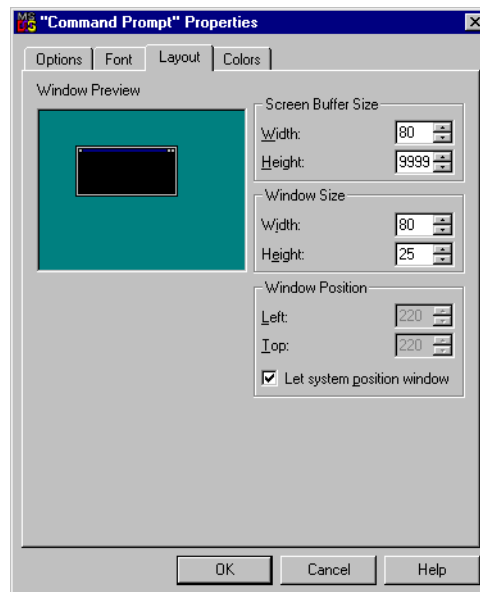

Figure 12-3. "Command Prompt" Properties Dialog Box
- d. The “**Command Prompt**” **Properties** dialog box displays (see figure 12-3).